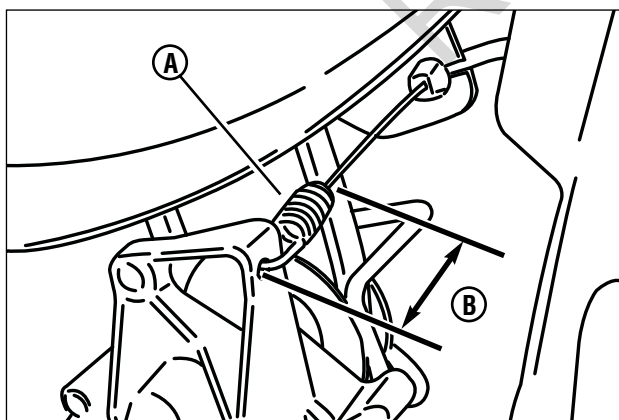

Figure 19: Measuring the disengaged transmission spring length
2. With the drive lever pulled fully back in the 'DISENGAGE' position, the spring (**A**, **Figure 19**) on the end of the wheel drive control cable should have no tension. Measure the overall length of the unextended spring (**B**).